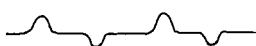
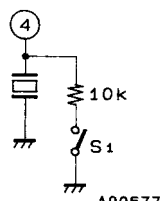

Figure 5 (Pin 4 oscillation waveform)
Figure 6 A00677
- Pin 4 is the ceramic oscillator pin. To make the oscillation waveform approach a sine wave, the oscillation level is controlled internally. Oscillation levels of 15 to 80 mVp-p at Pin 4 give the waveform shown in Figure 5. To stop oscillation, attach an external resistor as in Figure 6 and switch S1 on.